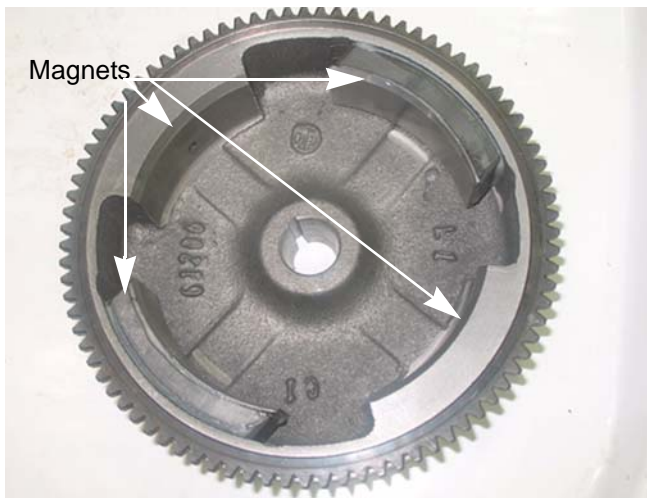

Figure 6.13
- Four magnets on the inside of the flywheel, refer to figure 6.13, that rotate around a stator that is mounted to the cylinder block. As the crankshaft and flywheel rotate, the moving magnets induce a charge in the stator.